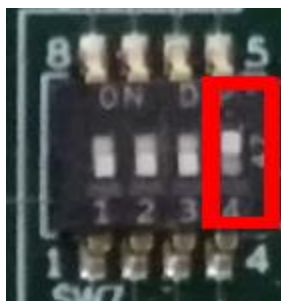
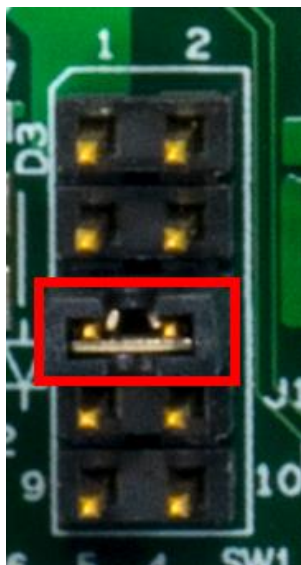

Figure 6. SW7-4 pull-up and others pull-down
Figure 7. Power supply switch
- Configure the board to serial downloader mode and make sure the power supply is from the Debug USB. To achieve these, SW7-4 should pull-up others pull-down Figure 6 and the J1-5, J1-6 should be connected Figure 7.